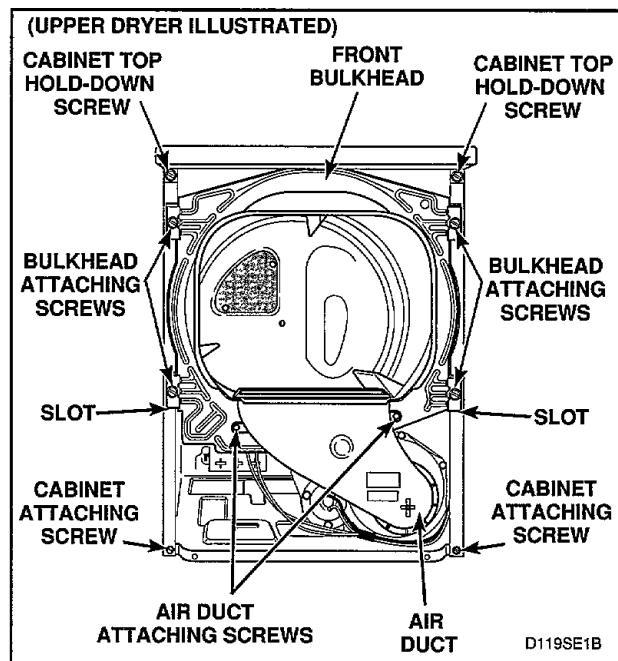

Figure 41
- Remove four screws holding bulkhead to front flange of cabinet, *Figure 41*. Lift complete bulkhead assembly out of slots in cabinet.
- f. Remove four screws holding bulkhead to front flange of cabinet and lift complete bulkhead assembly out of slots in cabinet, *Figure 41*.
- Remove four screws holding bulkhead to front flange of cabinet and lift complete bulkhead assembly out of slots in cabinet, *Figure 41*.
- Loosen two cabinet top hold-down screw, *Figure 41*.
- (1) Remove two cabinet top hold-down screws, *Figure 41*.